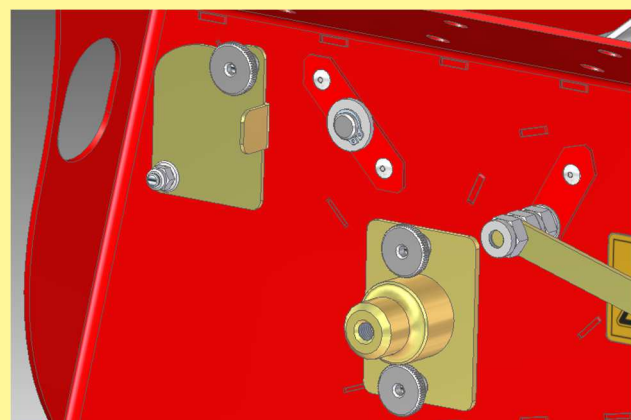

Figure 32
- Install the disassembled parts again in the reverse sequence (Figure 32).